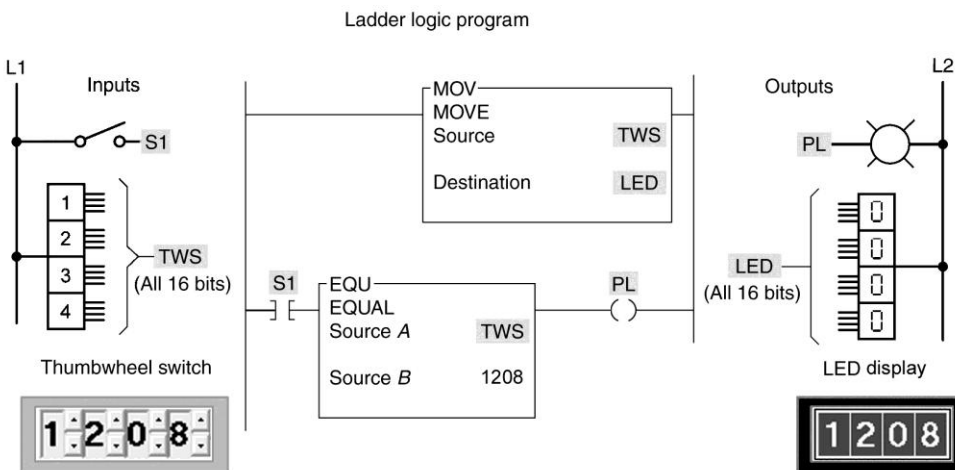

Figure 10-32 Thumbwheel switch program for assignment 8.
8) Monitoring the setting of a thumbwheel switch program of Figure 10-32 is described in the text. Prepare an I/O connection diagram and ladder logic program that will simulate its operation. Use addresses that apply to your PLC installation. Enter the program into the PLC, and demonstrate that the decimal setting of the thumbwheel switches is monitored by the LED display board and that pilot light PL will turn on when switch S1 is closed and the value of the thumbwheel switches is 1,208.